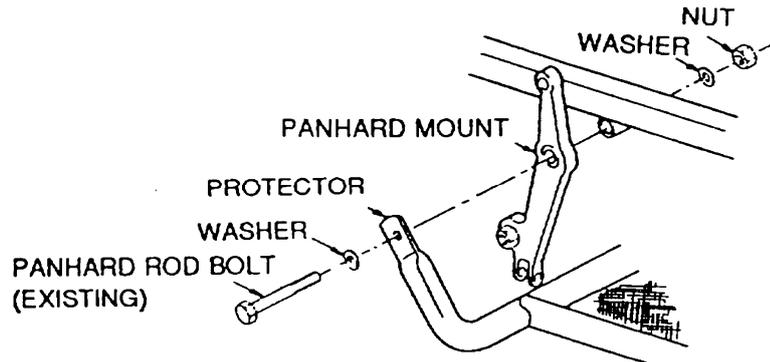

Figure 172 Protection Plate Removal
- b.** Support the protection plate and remove the lower panhard rod mounting arm-to-chassis mounting bolt, washers and nut (Figure 172).